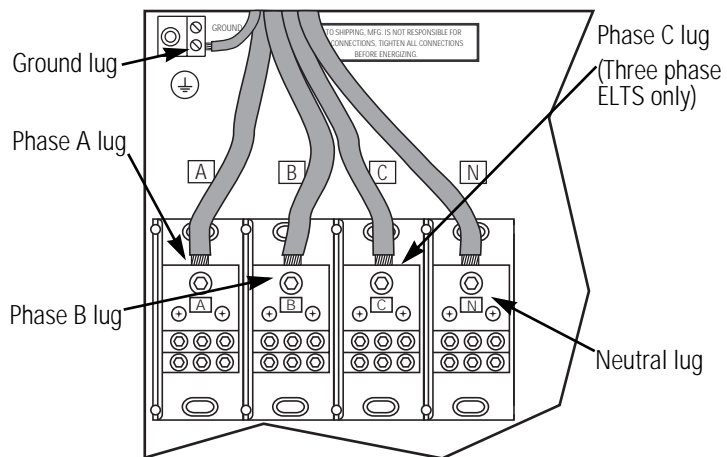

Figure 9: Connecting Emergency power to the ELTS
3. Using Figure 9, below, connect phase power cable to the correct lug: